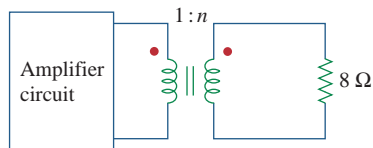

Figure 13.119
13.54 A transformer is used to match an amplifier with an $8\text{-}\Omega$ load as shown in Fig. 13.119. The Thevenin equivalent of the amplifier is: $V_{Th} = 10\text{ V}$, $Z_{Th} = 128\text{ }\Omega$.